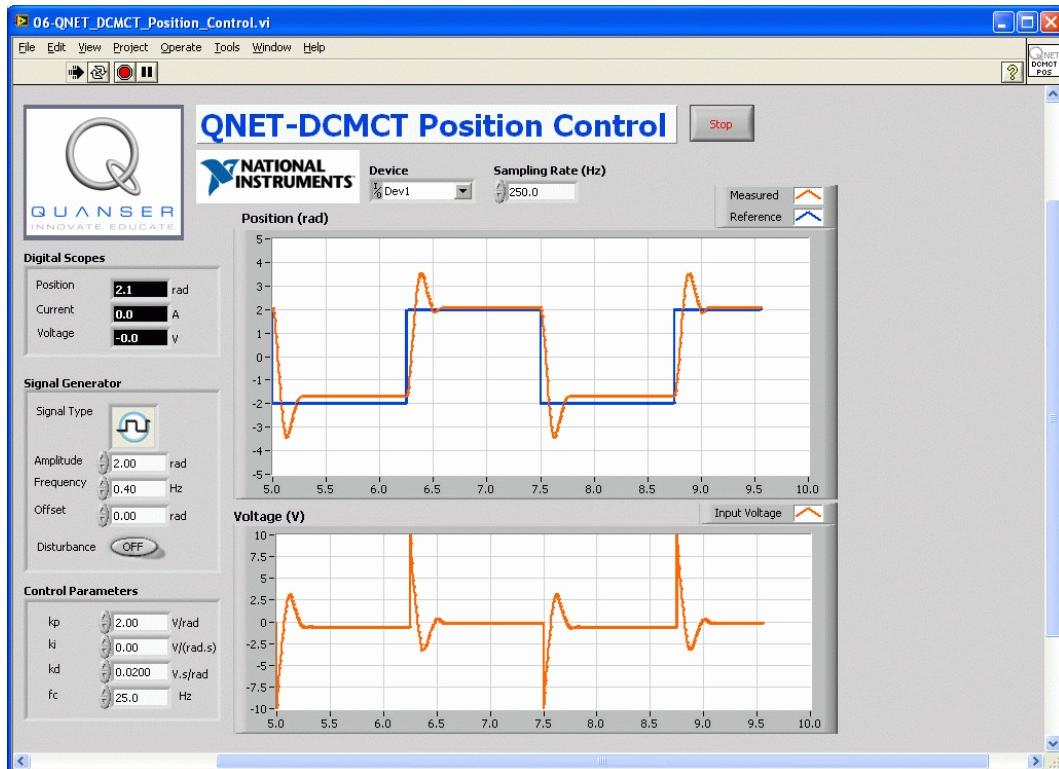

Figure 4.3: Virtual instrument for DC motor position control
Tracking a reference position square wave using PID control is first examined in this laboratory. Then, disturbance effects using PD and PID are studied through direct manual interaction or a simulated using a control switch in the VI. The LabVIEW virtual instrument for position control is shown in Figure 4.3.
2. Run the QNET_DCMCT_Position_Control.vi. The DC motor should be rotating back and forth and the scopes on the VI should appear similarly as shown in Figure 4.3.